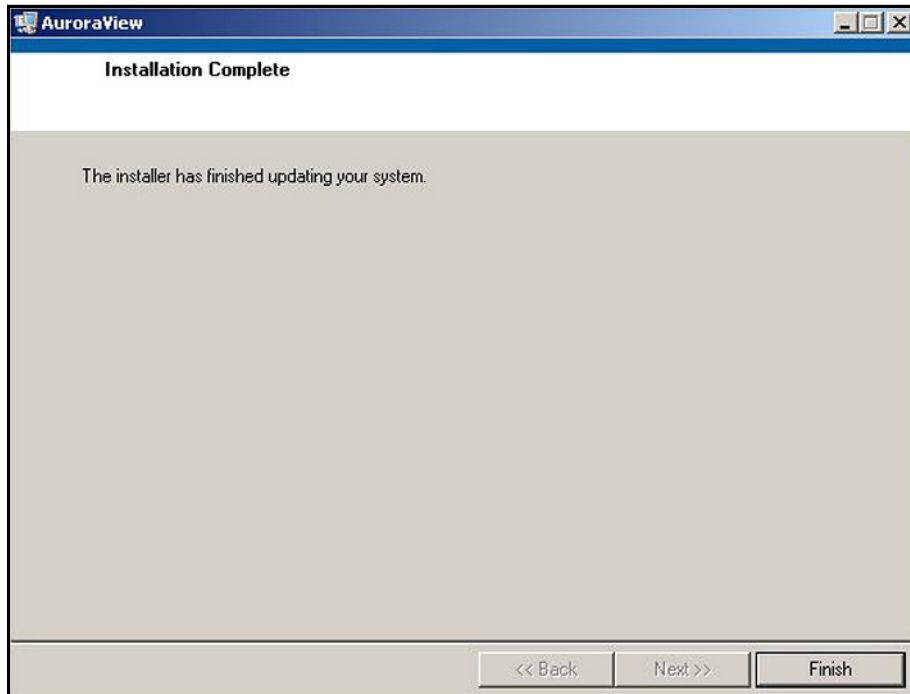

Figure 53: Installation Is Complete
9. The screen shown in *Figure 53* below appears when the installation is complete.